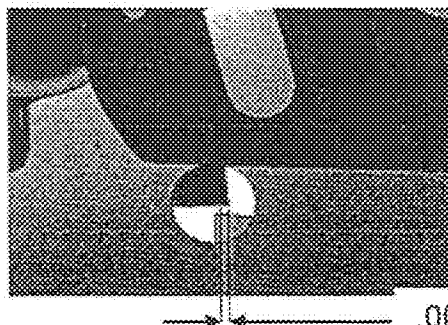

Figure 17
- Release the toggle clamp and move the safety to the SAFE position. Remount the assembly in the fixture and bring the trigger edge to a sharp focus. Align the trigger with the set edge for blocker screw adjustment as marked on the comparator screen. Adjust the blocker screw inward until there is 0.003" MIN to 0.006" MAX visible motion of the trigger when pulled with a 7 pound load. Ideally, the blocker screw setting should be made to show visible trigger motion just past the MIN position line on the comparator screen. Recheck and adjust as necessary. See Figure 17.